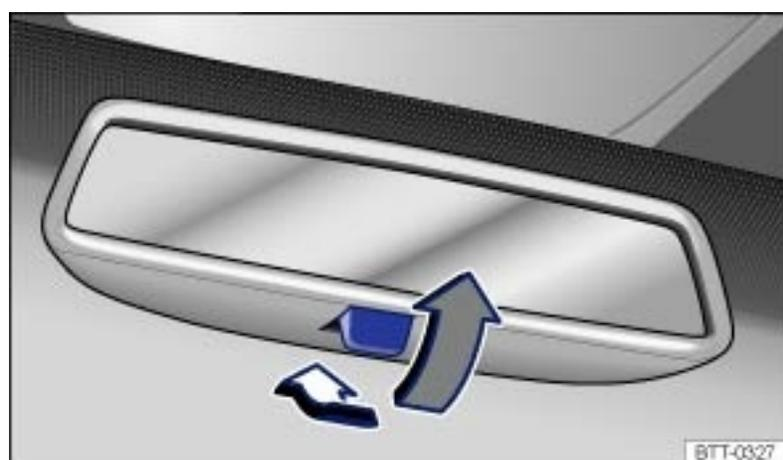

Fig. 95 Manually adjustable inside mirror.
- ▶ To adjust to non-glare visibility, move the lever so that it points backward → Fig. 95.